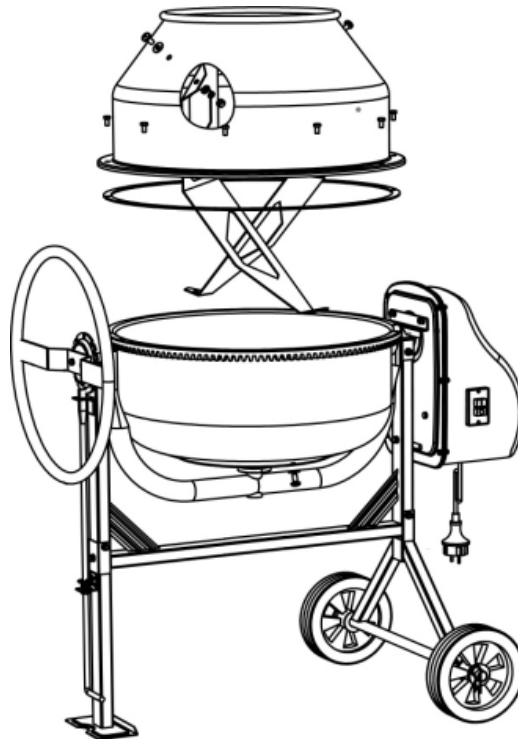

Fig.11
- Place the rubber gasket on the lower unit mixing drum (9), p.13, as shown in Fig.11 following page.
- Place the upper unit mixing drum (6) on the lower unit mixing drum.